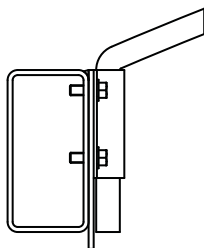

Figure 4
2) Figure 4. Position bracket as shown to reduce tarp wear.